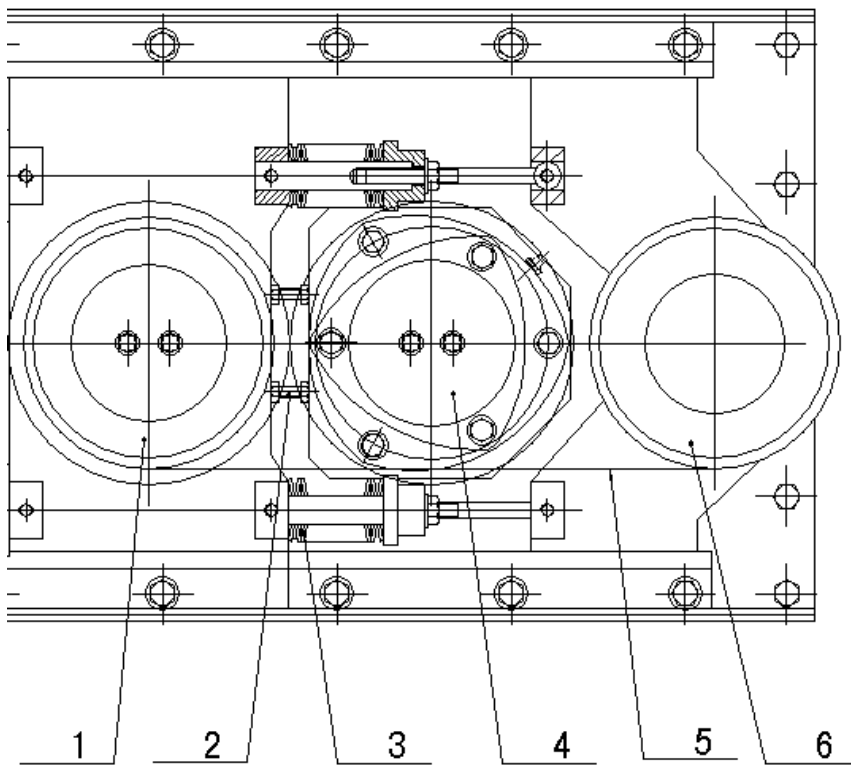

FIGURE 8 LIMIT SCREW ADJUSTING
Roll gap must be adjusted to obtain the different sizes. Turn the adjusting wheel clockwise to make the roller gap smaller, or vice versa. You can get the sample from sampling port to check if the adjustment is suitable or not. Normally, the gap size is about 2/3 of the pellet being crumbled. When the sample is qualified, lock the handle (8). When the gap is adjusted very small while plenty of pellet not being crumbled, fasten the nut(6) accordingly so that the material can crumbled smoothly. But do not press fully the spring. See Figure 8.
See Figure 8 for the position of limit screw. There is a limit screw each in the front of the two side bearing housings. When the rolls gap adjusting devices at both ends are adjusted to “0” position (the scale of indicator and dial indicator is 0), that is, the gap between fast roll and slow roll is zero while fast roll and slow roll do not contact with each other.